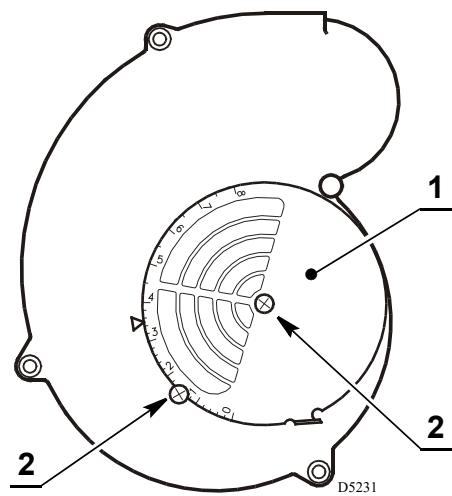

Fig. 11
The regulation of the air-rate is made by adjusting the air damper (1) Fig. 11, after loosing the screws (2).